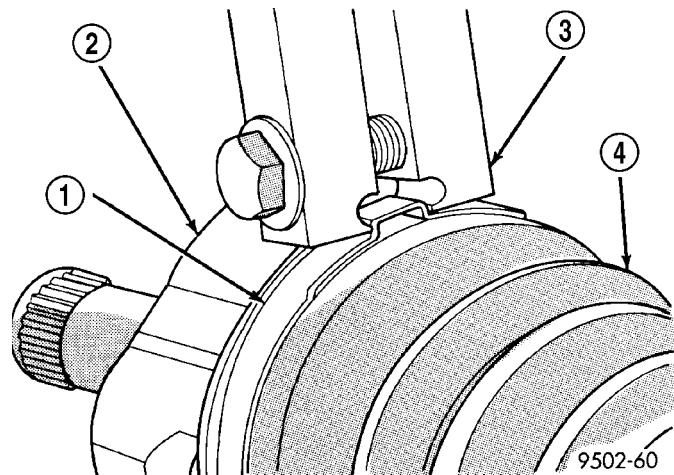
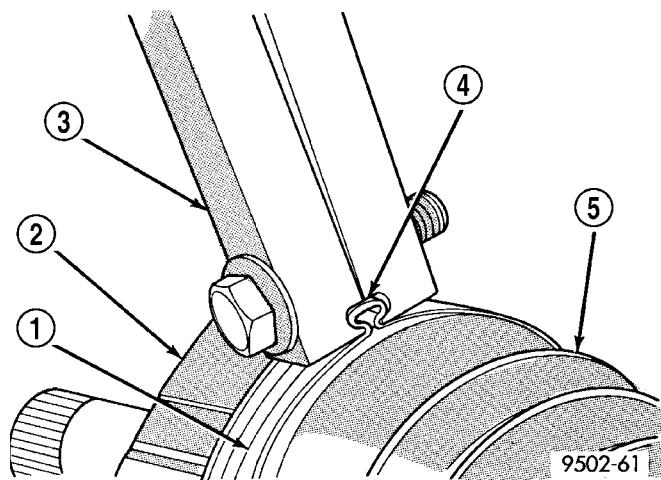

Fig. 54 Crimping Tool Installed on Sealing Boot Clamp
Fig. 55 Sealing Boot Retaining Clamp Installed
(8) Position outer C/V joint sealing boot into its retaining groove on outer C/V joint housing. Install sealing boot to outer C/V joint retaining clamp evenly on sealing boot.
(9) Clamp sealing boot onto outer C/V joint housing using Crimper, Special Tool C-4975-A and the following procedure. Place crimping tool C-4975-A over bridge of clamp (Fig. 54). Tighten nut on crimping tool C-4975-A until jaws on tool are closed completely together, face to face (Fig. 55).